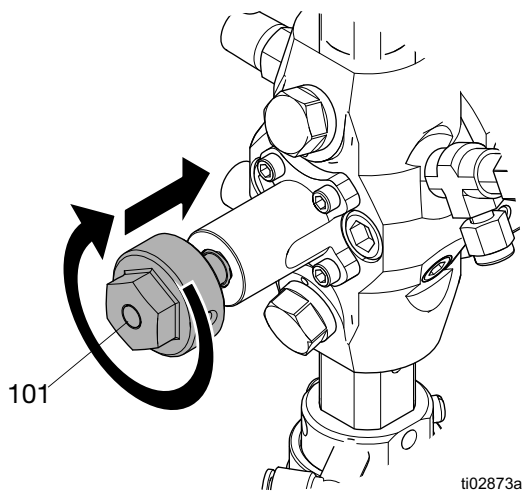

FIG. 3: Shut Needle Valves
To shut the needle valves (102), screw the knobs completely in going clockwise. See FIG. 3.